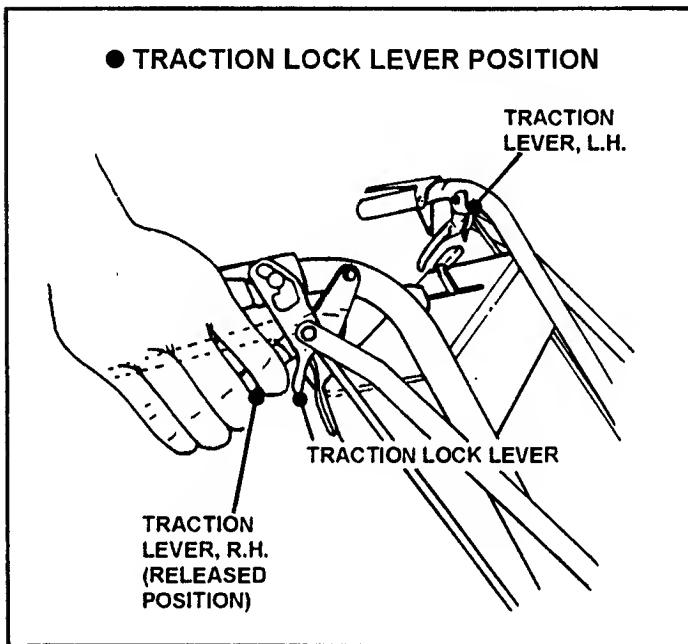

FIGURE 17
3. To release Traction Lock, squeeze both Traction Levers firmly against the handle. Using index finger, push Traction Lock Lever forward. Simultaneously release both Traction Levers slowly, allowing machine to start forward movement. See Figure 17.